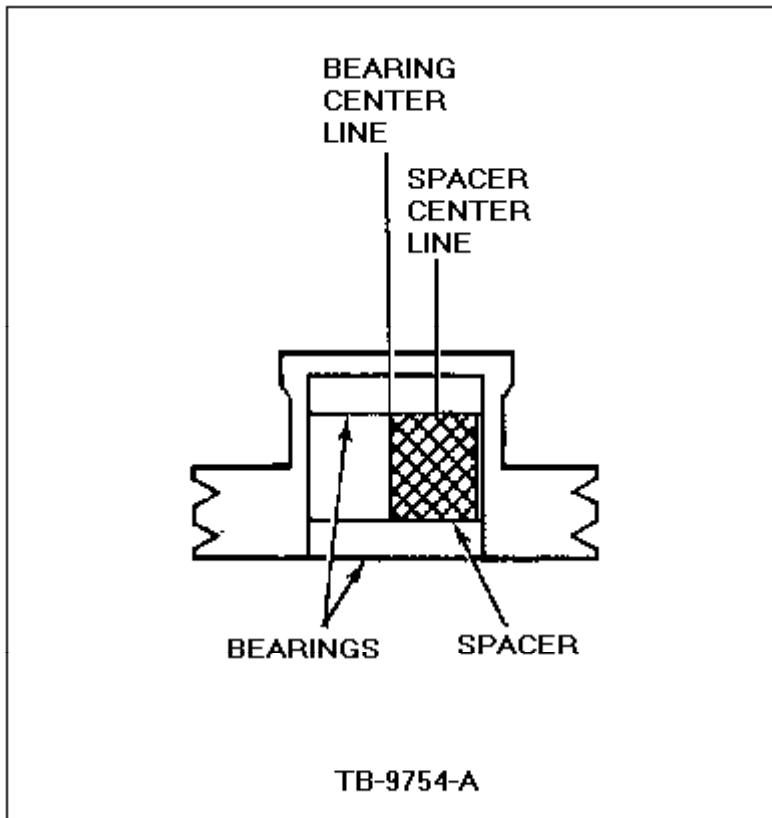

Figure 2 - Article 90-17-15
4. Position the bearing spacer so the wall of the spacer is centered on the bearing inner race, Figure 2.